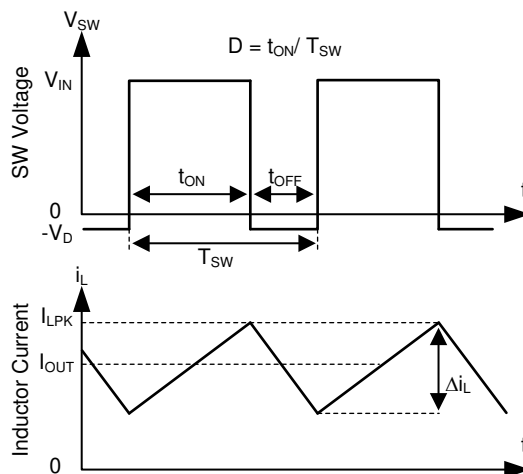

Figure 29. SW Node and Inductor Current Waveforms in Continuous Conduction Mode (CCM)
The following operating description of the TPS2584x-Q1 will refer to the Functional Block Diagram and the waveforms in Figure 29. TPS2584x-Q1 is a step-down synchronous buck regulator with integrated high-side (HS) and low-side (LS) switches (synchronous rectifier). The TPS2584x-Q1 supplies a regulated output voltage by turning on the HS and LS NMOS switches with controlled duty cycle. During high-side switch ON time, the SW pin voltage swings up to approximately V_{IN} , and the inductor current i_L increase with linear slope $(V_{IN} - V_{OUT}) / L$. When the HS switch is turned off by the control logic, the LS switch is turned on after an anti-shoot-through dead time. Inductor current discharges through the LS switch with a slope of $-V_{OUT} / L$. The control parameter of a buck converter is defined as Duty Cycle $D = t_{ON} / T_{SW}$, where t_{ON} is the high-side switch ON time and T_{SW} is the switching period. The regulator control loop maintains a constant output voltage by adjusting the duty cycle D . In an ideal buck converter, where losses are ignored, D is proportional to the output voltage and inversely proportional to the input voltage: $D = V_{OUT} / V_{IN}$.